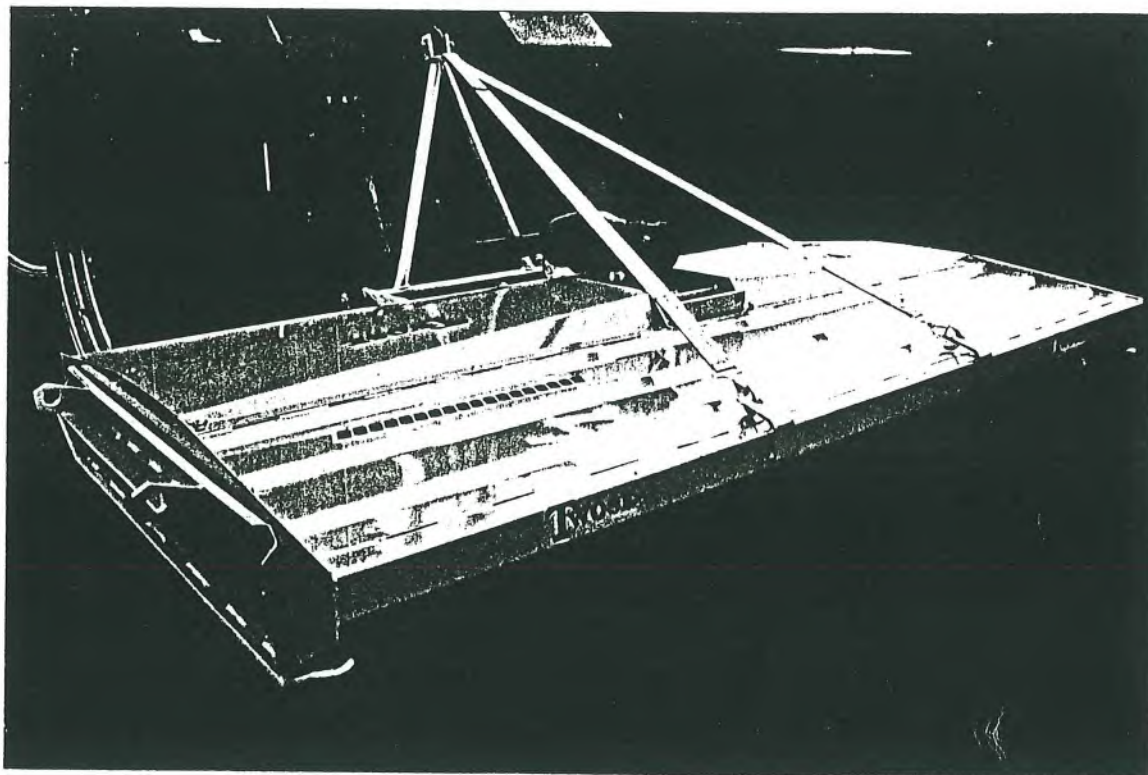

Fig. 4 P.T.O. Shaft Setting Height
- (b) When lifting Rotary Topper, ensure that P.T.O. shaft does not foul, see Fig. 4. To prevent this, set the hydraulic stop to a safe height or shorten top link. Manufacturers cannot be held responsible for damage to the P.T.O. caused by failure to apply these precautions.